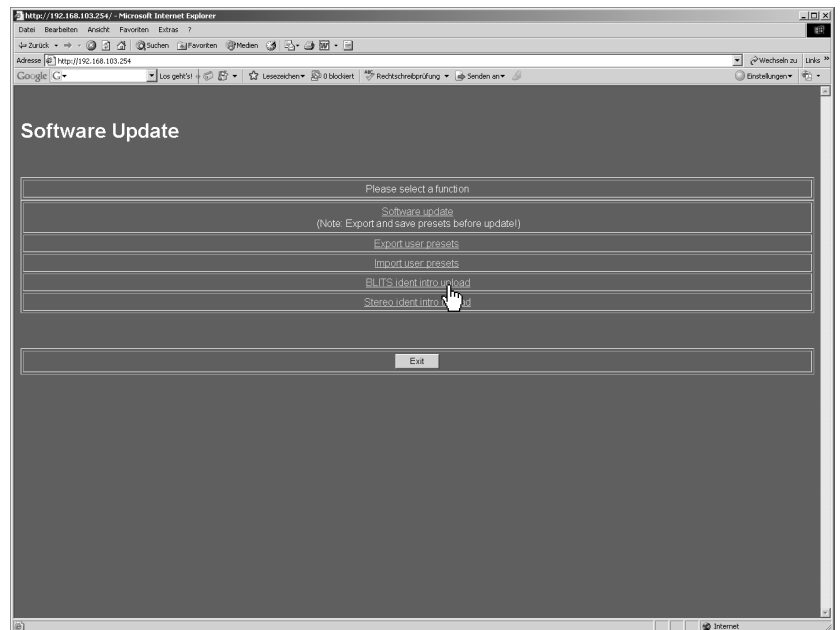
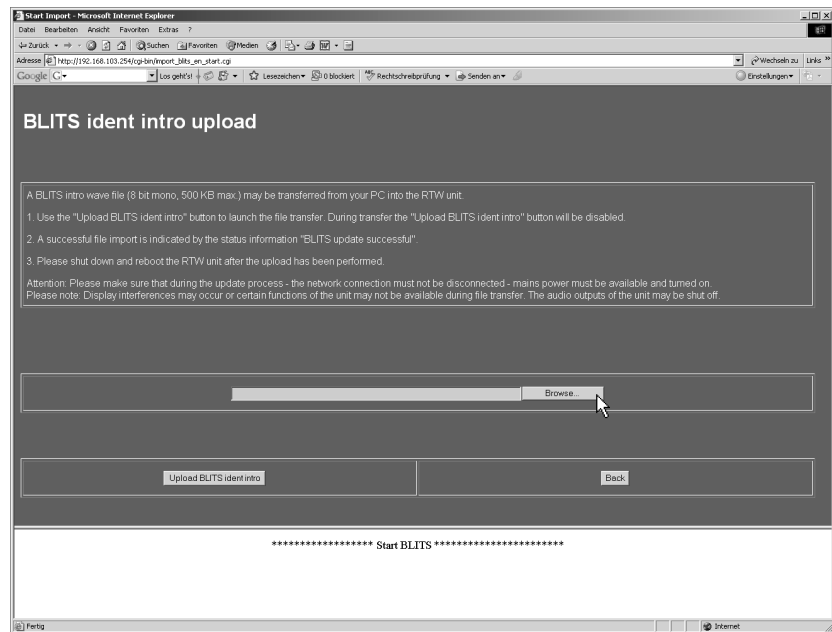
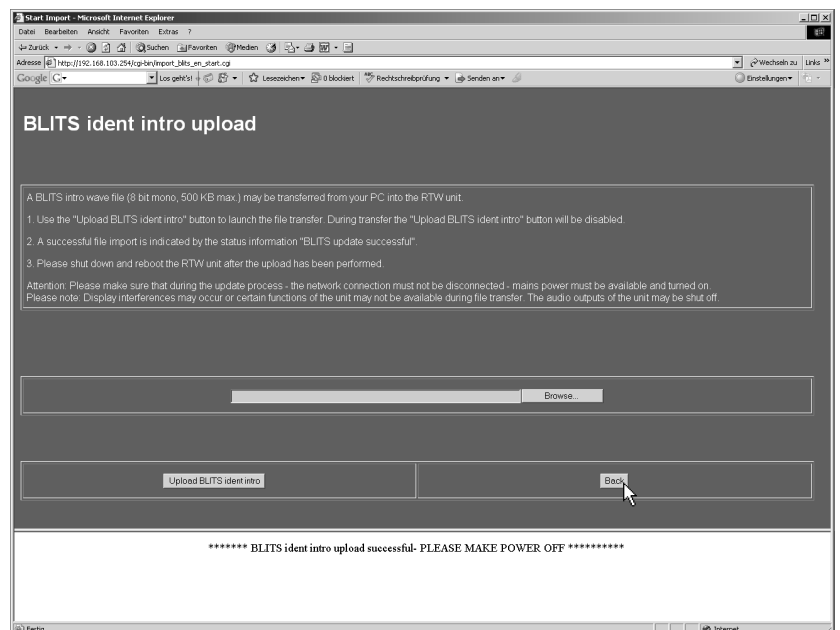

Fig. 8-25: Software Update Program menu in web browser
Fig. 8-26: Display of the BLITS ident intro upload menu page (Browse ...)
Fig. 8-29: End of the BLITS ident intro upload
2. The SurroundMonitor units should respond with a screen like the one shown in Fig. 8-25. Choose **BLITS ident intro upload**. **Please note the instructions on the BLITS ident intro upload menu page** (see Fig. 8-26).
3. Please click the **Browse ...** button (see Fig. 8-26) to browse for the ident intro wave file.
6. When “BLITS ident intro upload successful – PLEASE MAKE POWER OFF” is displayed the ident intro upload process is finished (see Fig. 8-29). For activating the ident intro wave file the SurroundMonitor unit has to be restarted.
7. Click the **Back** button (see Fig. 8-29) to get back to the home page (see Fig. 8-25). There please click the **Exit** button to leave the software update program.